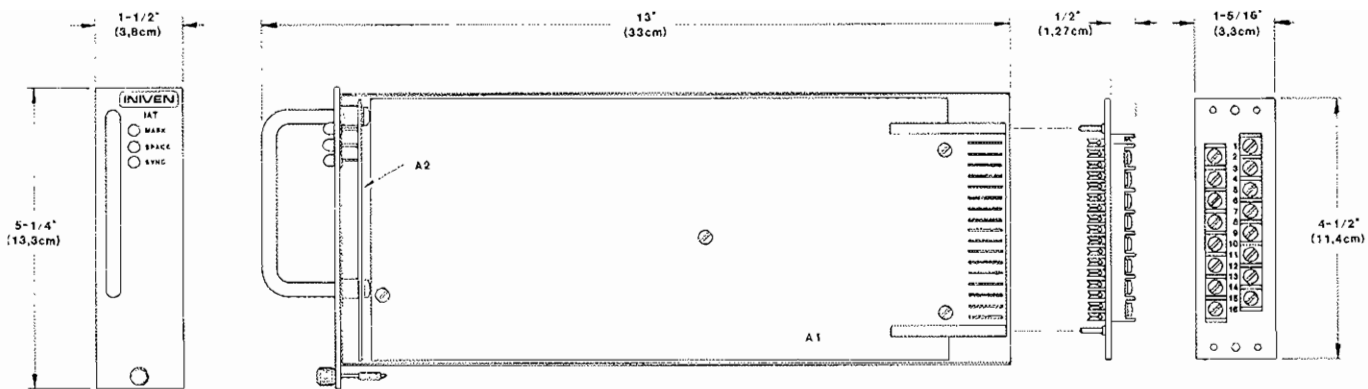

Figure 6. IAT Analog Transmitter—Dimensions and Component Identification
The following parts list is included to facilitate maintenance of the IAT, Analog Transmitter. All parts are listed in order of their reference designators, as applicable. Figure 6 depicts the
7.1 IAT ANALOG TRANSMITTER. (See Figure 6)